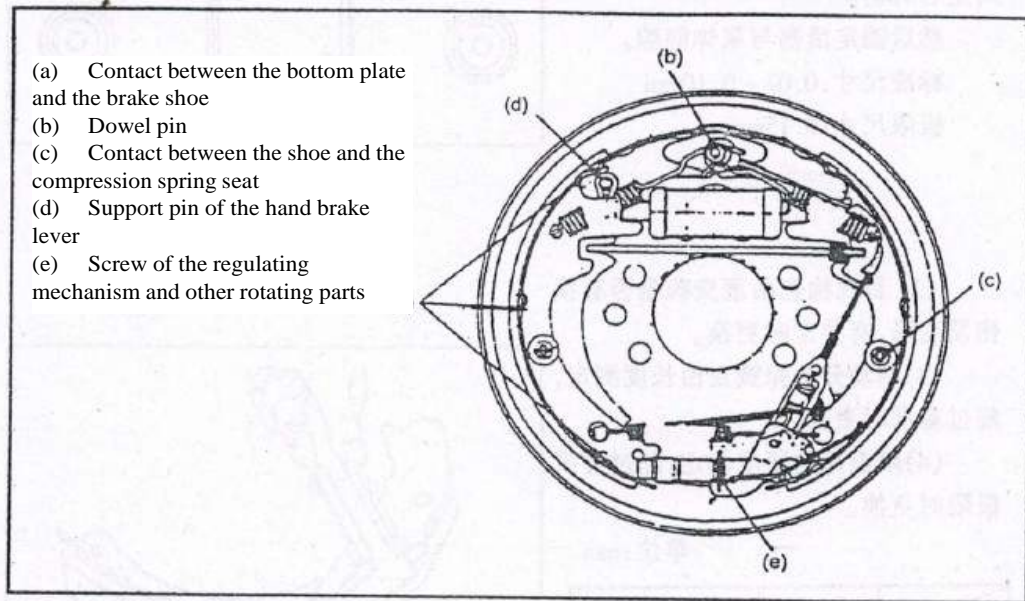

Fig. 2-22
(1) Apply the braking fluid to the cup and the piston of the brake wheel cylinder and assemble the spring, the piston and the dust ring in order.
(2) Install the brake wheel cylinder on the brake bottom plate.
(3) Install the brake bottom plate on the drive axle.
(4) As shown in Fig. 2-22, apply the heat-resistant grease to each place and pay attention not to applying the grease to the lining.